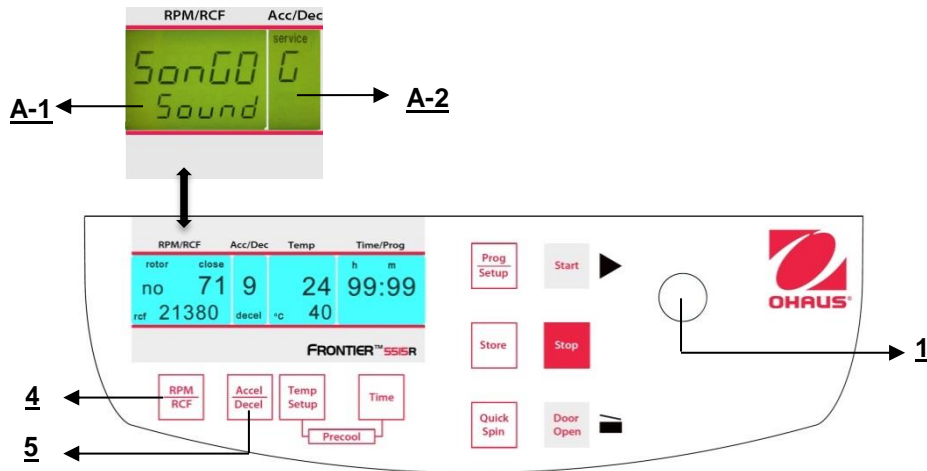

Figure. 35
Proceed as described under point 4.1.2 to enter this program mode and then press the key "Accel/Decel" (5). In the display "Acc/Dec" (A-2) the word "Service" flashes. Now select the letter "G". with the adjusting knob (1). As a result, in the display "RPM | RCF" (A-1), the word "SonGo/Sound" appears. After pressing the key "RPM | RCF" (4), you can select a song with the adjusting knob (1). (See figure 35).